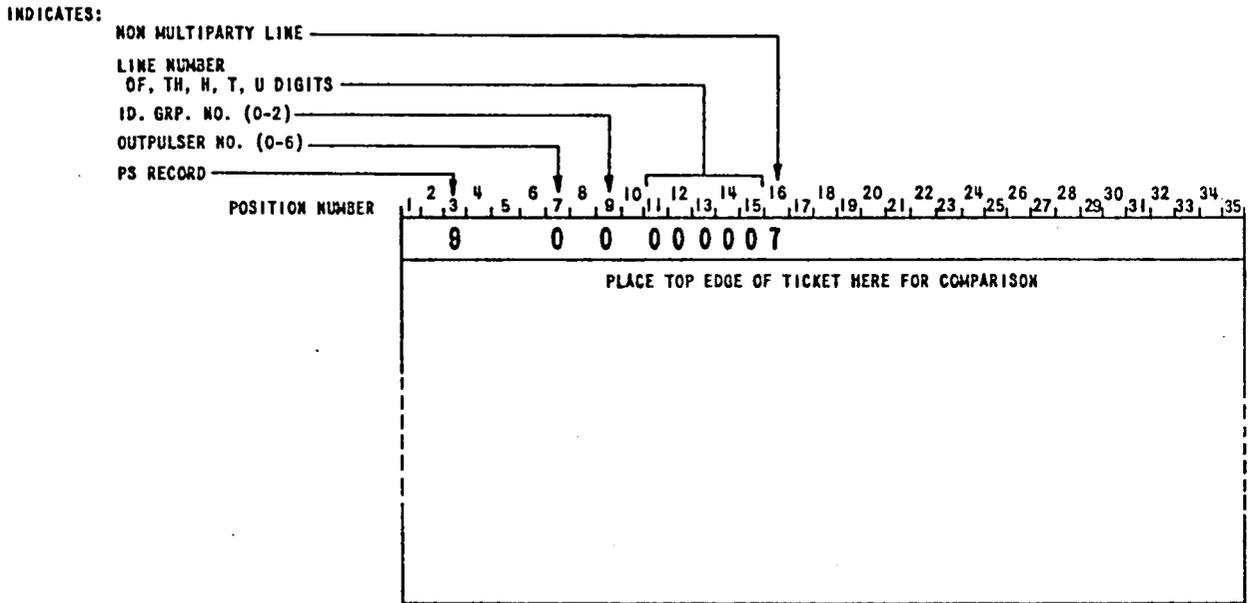

FIG. 1 PERMANENT SIGNAL RECORD
- 4.461 Compare the digits printed on the permanent signal record as indicated in Figure 1.
4.464 An asterisk or dash in any position where Figure 1 indicates a digit should be printed in an indication of trouble in the trouble ticketer.